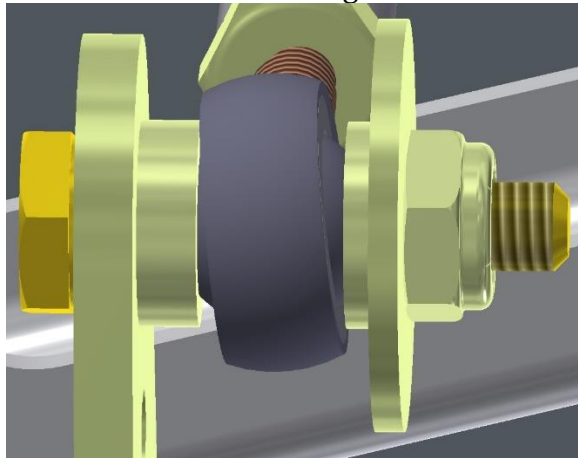

Figure 3-11
- 9.1. Fasten the MM-3-300 Rod End Bearing (P/N 2510-051) to the outer hole of the 1.5" PMA Servo Arm (P/N 1420-209) using 3 AN960-10, 1 AN970-3, 1 AN3-10A, and 1 MS20364-1032 in the configuration shown in figure 3-11.